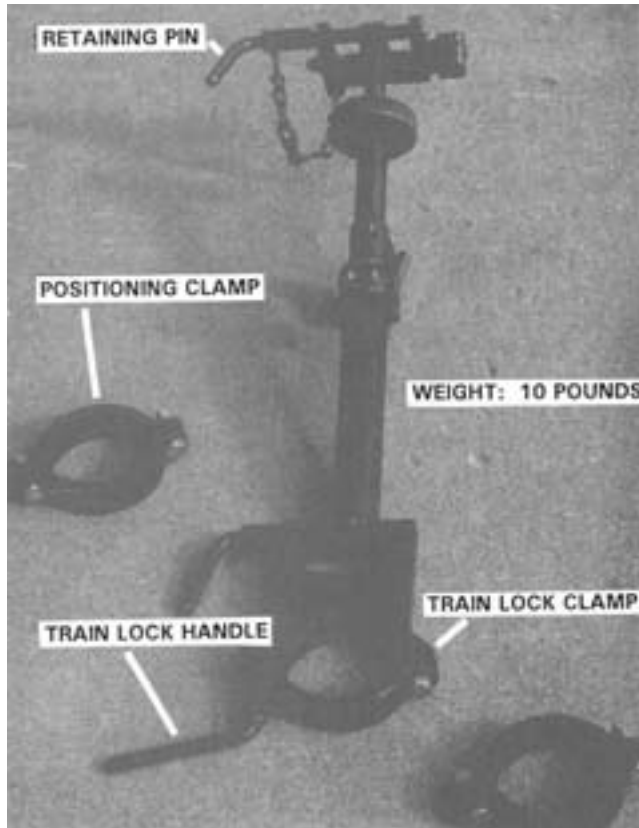

Figure 4-75. T&E Mechanism Mount Assembly.
(2) T&E mechanism mount assembly. This assembly adapts the T&E so that it secures the carriage and cradle to the M4 pedestal or HMMWV weapons platform pedestal and provides fire control adjustments (see figure 4-75). The lower end of the assembly is attached to the pedestal by a train lock clamp. It may be released for traverse or locked in position by a train lock handle. Two positioning clamps are provided to prevent up or down movement of the traversing lock clamp on the M4 pedestal. When used on the HMMWV weapons platform pedestal, only one clamp is required above the traversing lock clamp. A standard M2 .50 cal traversing mechanism composes the upper end of the T&E assembly. It is attached to the lower rear holes in the M4 cradle by a retaining pin. For more on the T&E mechanism, see chapter 5, section 5.